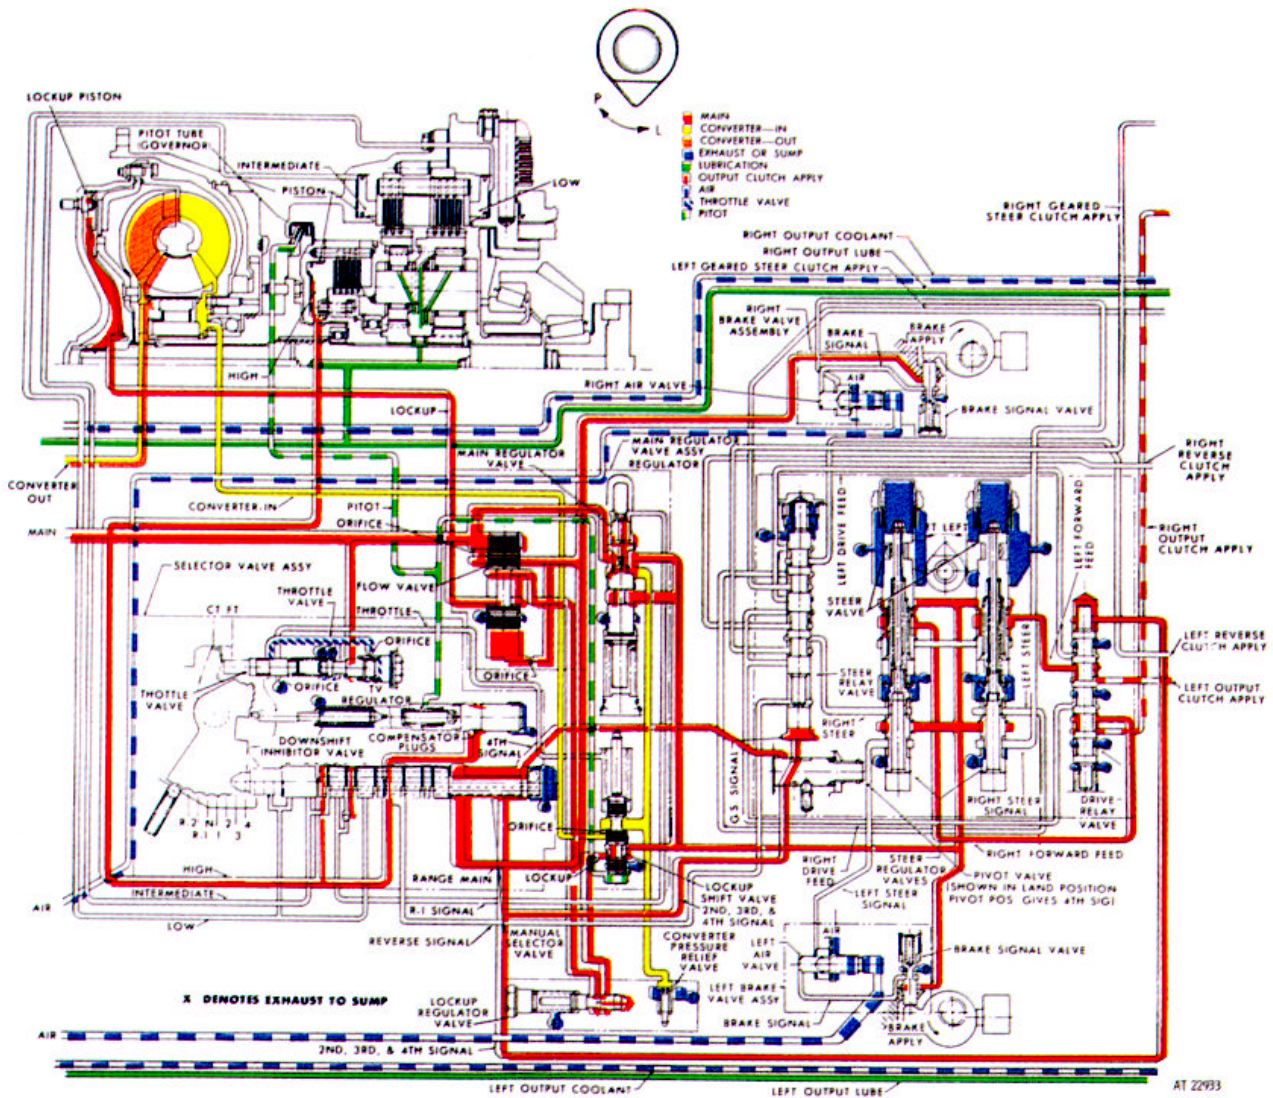

Figure 2-6. Hydraulic system. fourth gear straight travel operation -schematic view.
Refer to figure 2-6 and paragraph 2-38c.
(fig. 2-6)
c. *Pitot Pressure Circuit.* Figure 2-6 illustrates the effect greater pitot pressure has on the downshift inhibitor valve and lockup shift valve. The position in which these valves are shown can occur any time pitot pressure is great enough to overcome the opposing forces.